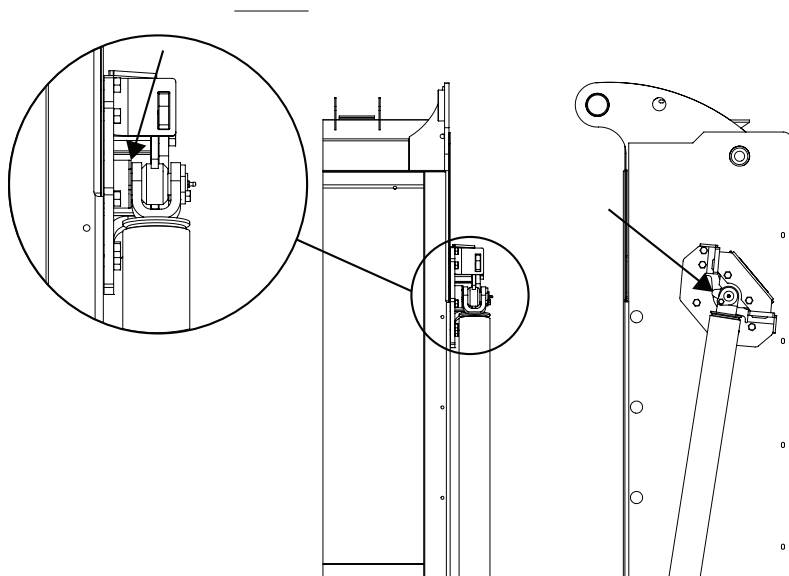

Figure 10
7. Install all eight (8) 1/2-13 X 4.5" GR8 bolts using 271 Loctite (red) and using a torque wrench, torque all eight bolts to 80 ft.-lbs.
8. Reinstall the cylinder and place washer, part number 1621307, between the mount bushing and the cylinder clevis as shown in Figure 10.